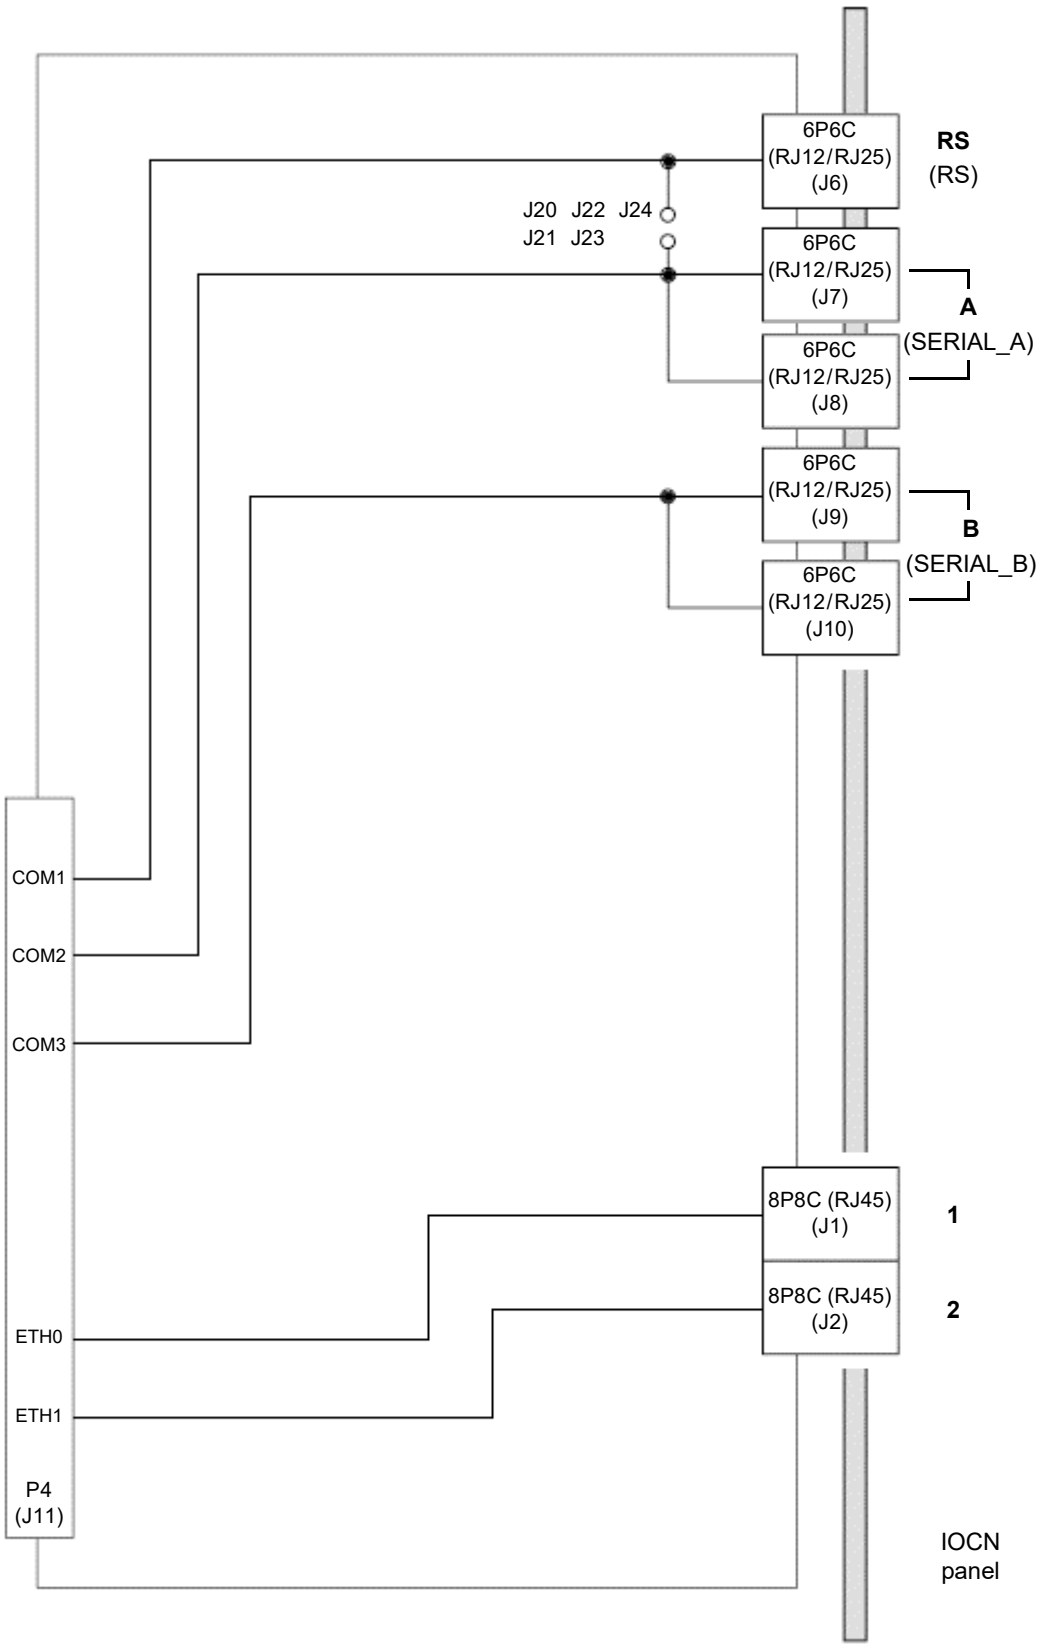

Figure 6-4: Block diagram of IOCN card
Similarly, Figure 6-4 shows a block diagram of the IOCN card.
- The serial port on the card's panel, shown as **RS** (COM1) in Figure 6-4, corresponds to the RS device in the `modbusDefault.cfg` configuration file.
- The serial ports on the card's panel, shown as **A** (COM2) in Figure 6-4, correspond to the SERIAL_A device in the `modbusDefault.cfg` configuration file.
- The serial ports on the card's panel, shown as **B** (COM3) in Figure 6-4, correspond to the SERIAL_B device in the `modbusDefault.cfg` configuration file.